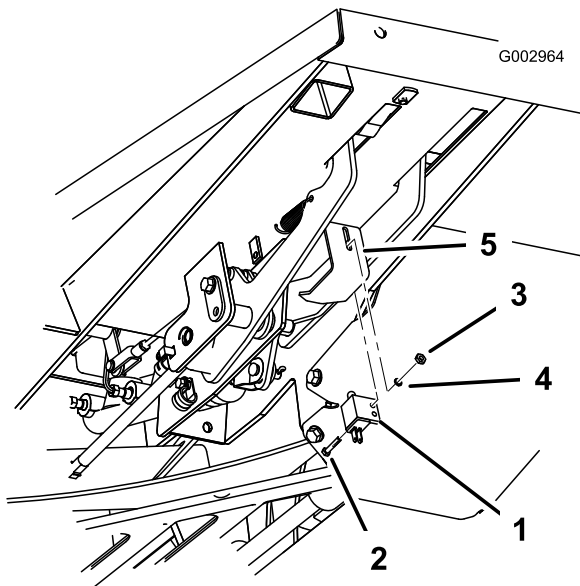

Figure 40
1. Install the brake switch to the brake lever using the 2 bolts (3/16 x 5/8 inch), lock washer, and nut (3/16 inch) as shown in Figure 40.